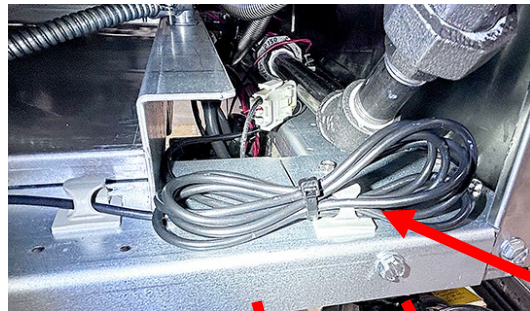

Figure 13
15. Locate the proximity harness on the lower right side of the fryer as viewed from the rear (see Figure 13).